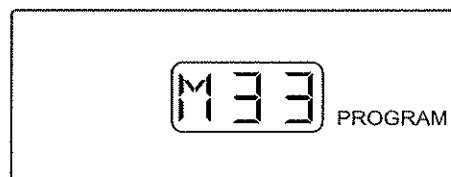

Figure 2-15
4. To adjust the hour (h) you will need to press and hold the **SET** button until the center digit flashes. Keep in mind that the hour will be displayed as a 24-hour clock. An example is that 3:00 in the afternoon will be shown on the clock as h15. Pressing the up and down arrow buttons will adjust the value of this digit. When you have selected the number that you want press the right button to adjust the right digit in the same manner with the up and down arrow buttons. When you have the proper number displayed for the hour (h) press and hold the **SET** button for 3 seconds until the monitor beeps twice and the display flashes twice. (The monitor will now display like **Figure 2-15**).